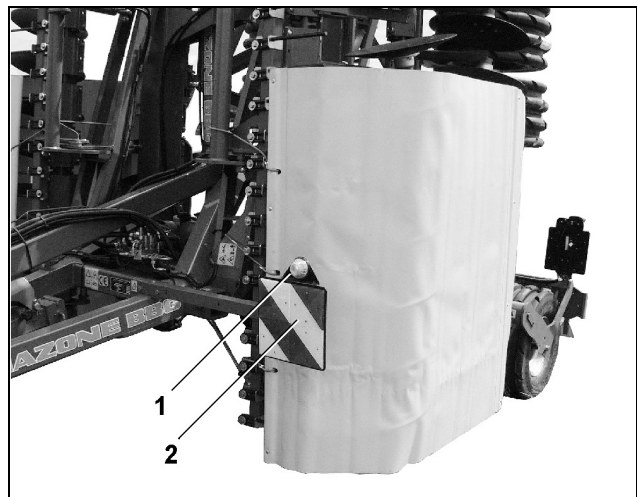

Fig. 20
- two limiting lights facing to the front (Fig. 20/1)
- two warning plates facing to the front (Fig. 20/2)
- lateral reflectors, yellow (Fig. 20/3)